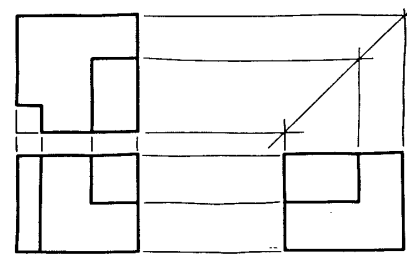

FIGURE 2.47 ■ Step 3, darken all object lines.
- Step 3. Darken the lines of the object as in Figure 2.47. Remember, keep the views aligned for ease of sketching and understanding.